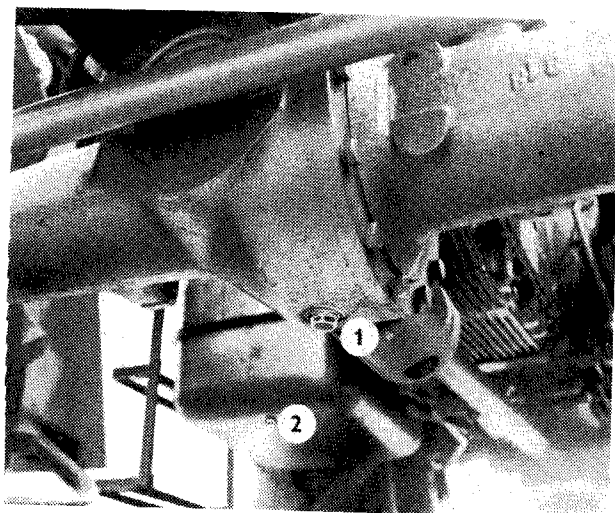

Fig. 15
- 19. Front drive axle oil drain plug (Fig. 15/1).
- 24. Fuel tank impurities drain plug (Fig. 15/2).